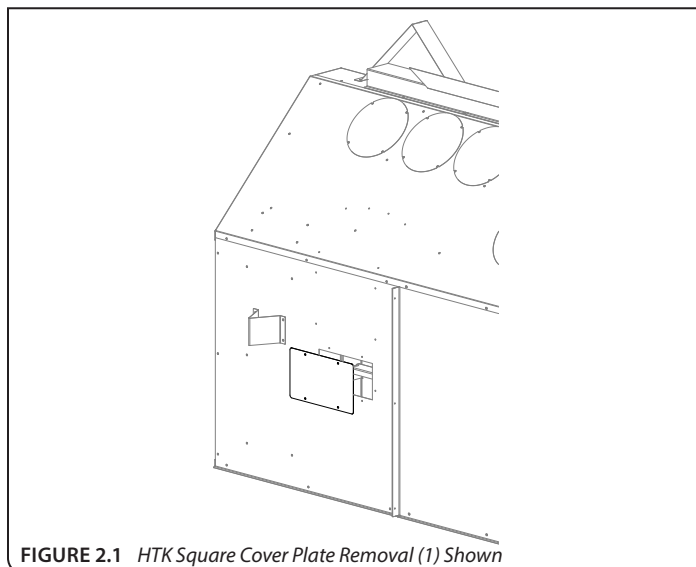

FIGURE 2.1 HTK Square Cover Plate Removal (1) Shown
1. The outer shell of your fireplace will have cover plate(s) for use with heat transfer kits. Reference the fireplace manual for the location of your heat transfer kit cover plates. See **FIGURE 2.1**.